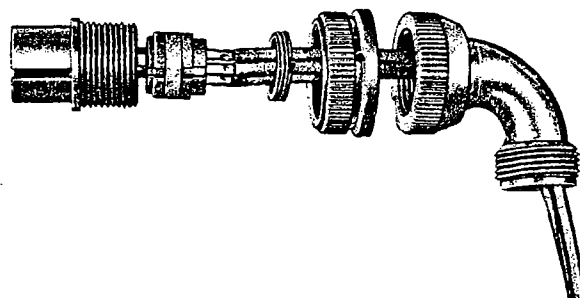

Figure 21
f. Align keyway of assembled inserts with keyway in connector shell. Carefully push assembled inserts and contacts in back of shell (figure 21). If sealing insert catches on shell key, depress the insert at this point with a dull instrument passing it under the key.